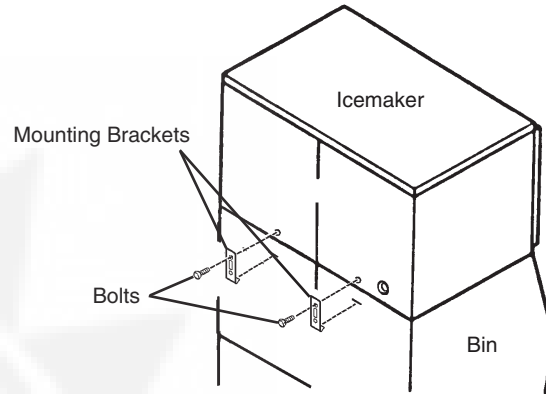

Fig. 2
- 4) Secure the icemaker to the storage bin using the two mounting brackets and the bolts provided. See Fig. 2.